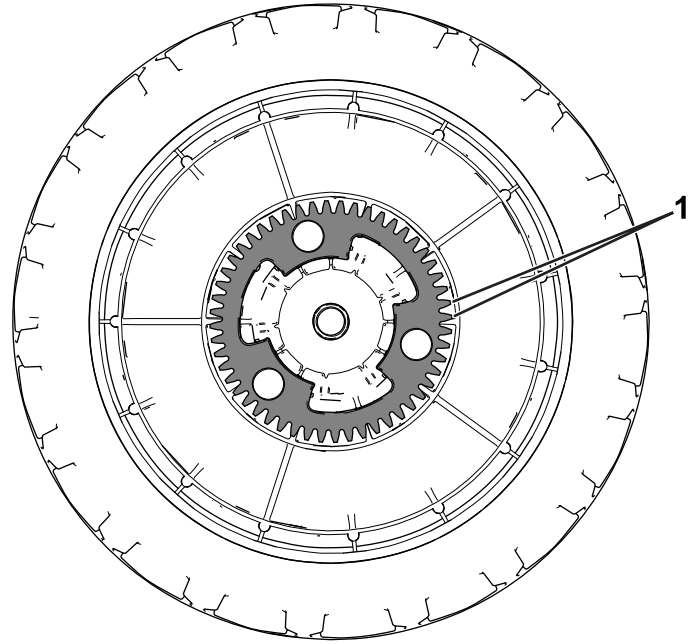

Figure 6
2. Apply anti-seize to the wheel gear teeth (Figure 6).